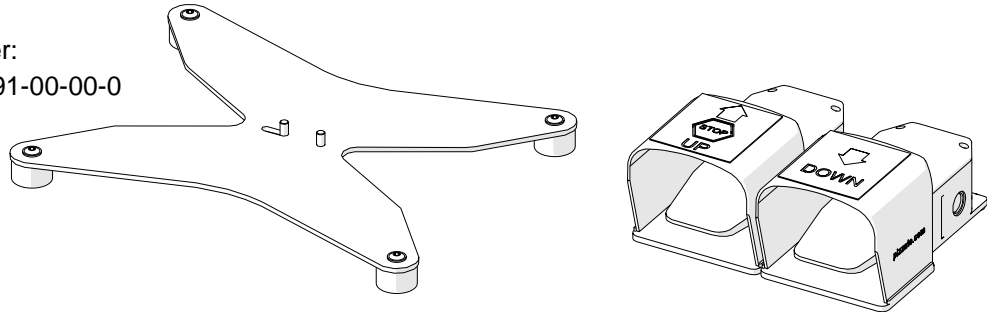

**Fig. 14.** Mounting the machine and setting the force and height of the crane
Mount the gas spring unit between the crane arm and the crane base as shown in Fig. 14. Place the unit in such an arm socket (1) to set a force that will balance the weight of the machine. Insert the piston rod into the base socket on the required height (2). Finally, hang the machine with the chain on the arm end (3), and lock the chain with the locking plate (4), 6.4 mm washer (5), and M6x20 handlever (6). To set a different force or height, remove the machine with the chain and position the gas spring unit in an adjacent socket of the comb 1 or 2, respectively.